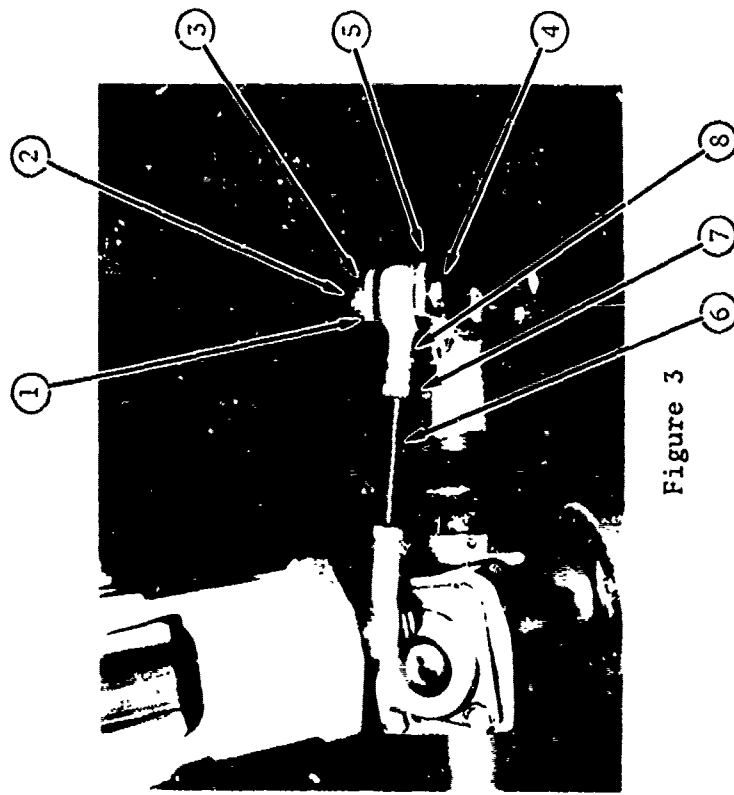

Figure 3
Step 3. (Figure 3) Remove cotter pin ①, nut ② lock-washer ③ and bolt ④ on crosshead-end ⑤ of PITCH CHANGE LINK ⑥ (Two 7/16-inch open-end wrenches required for nut and bolt.)
Step 4. (Figure 3) Loosen jam-nut ⑦ on PITCH CHANGE LINK ⑥ (1/2-inch open-end wrench required for jam-nut.)
Step 5. (Figure 3) Pull crosshead-end assembly ⑧ out of crosshead ⑤. Lengthen PITCH CHANGE LINK ⑥ by turning crosshead-end assembly ⑧ one-half turn.
Step 6. (Figure 3) Tighten jam-nut ⑦ on PITCH CONTROL LINK 6.
Step 7. (Figure 3) Install bolt ④ lock-washer ③ nut ② and cotter pin ① on crosshead-end ⑤ of PITCH CONTROL LINK ⑥